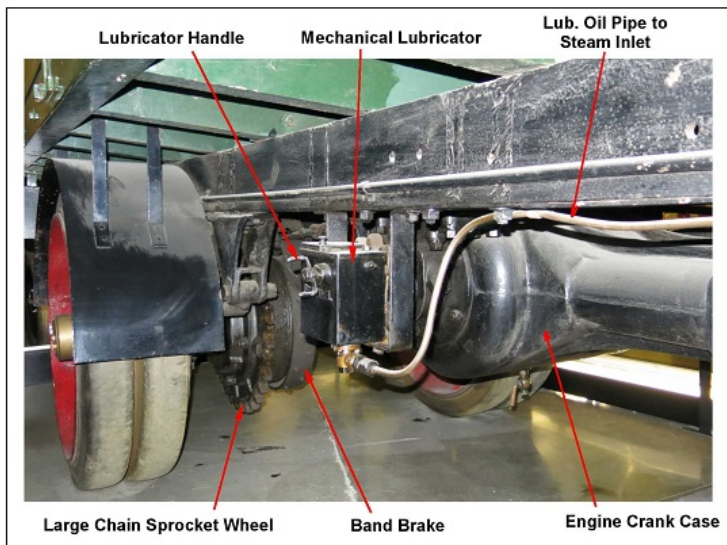

Figure 9
The Standard Sentinel Waggon used a very simple transmission drive comprising of just three components: (1) A chain sprocket pinion on the end of the engine crankshaft (Fig. 2), (2) a "Renold" type roller chain (ref. 11), (3) a chain sprocket wheel on the rear axle (Fig. 9 & 10).